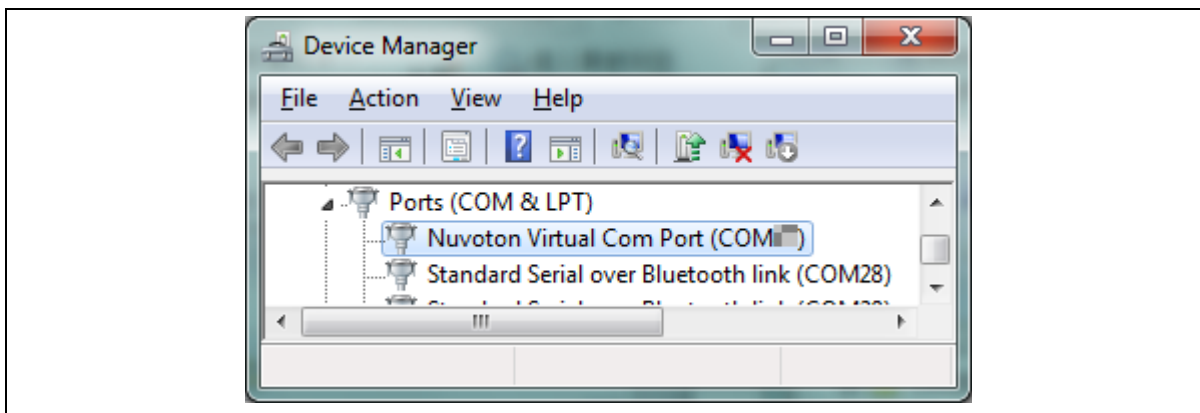

Figure 4-5 Device Manger
3. Find the “Nuvoton Virtual COM Port” on the Device Manger as Figure 4-5.